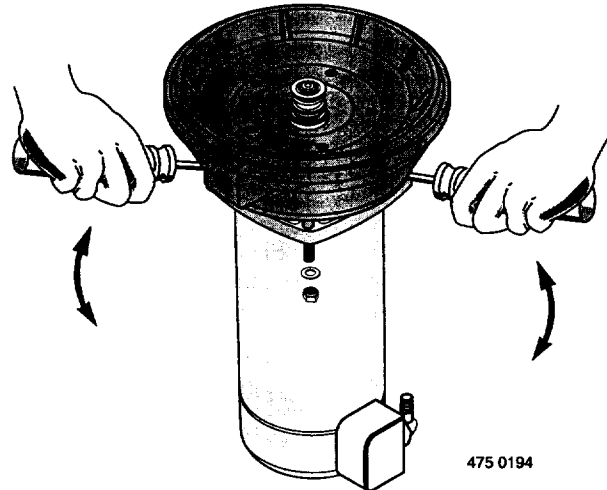

Figure 9
5. Remove pump back half from motor by unscrewing four (4) nuts, Key No. 20, Page 16, and pry back half off of motor by inserting two (2) screwdrivers between the back pump half and the motor flange. Rotating portion of seal will now come off of shaft. Motor is now separated from pump (see Figure 9).